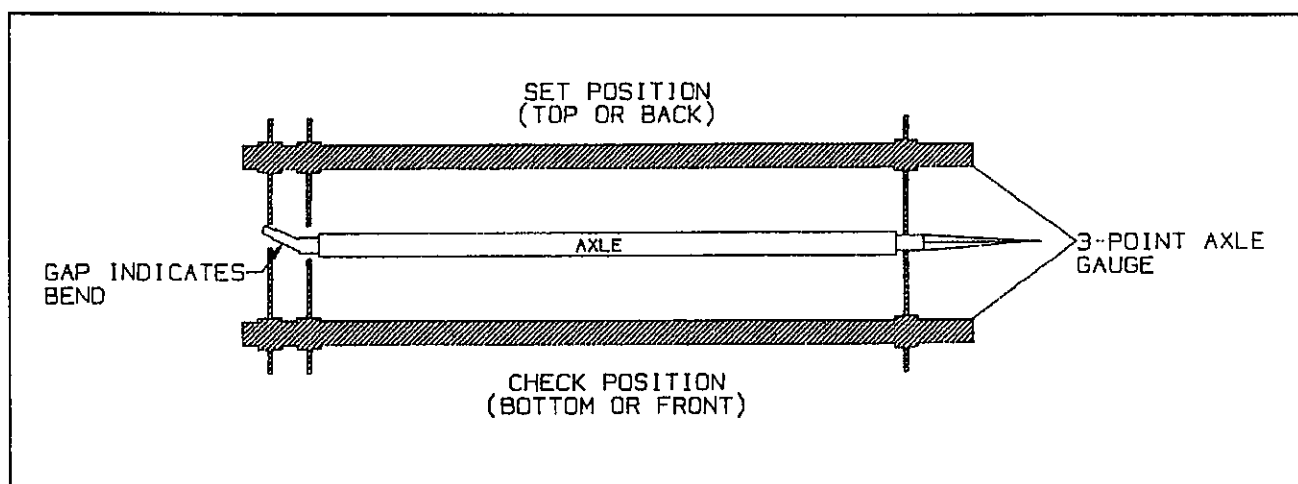

Figure 4-5 Checking Axle for Bend
- b. Place a 3-point axle gauge against the front side of the axle, and adjust each axle gauge point to the axle. (Double point end against the inner and outer wheel bearing surfaces of the spindle being checked and the other point on the inner bearing surface on the other spindle)(see Figure 4-5).
- c. Move the axle gauge and place against the back side of the axle. If either of the points of double point end fails to touch the axle surface, a bent spindle is evident. A point gap of .015" or more is considered excessive tire "toe" and the axle must be replaced (see Figure 4-5).